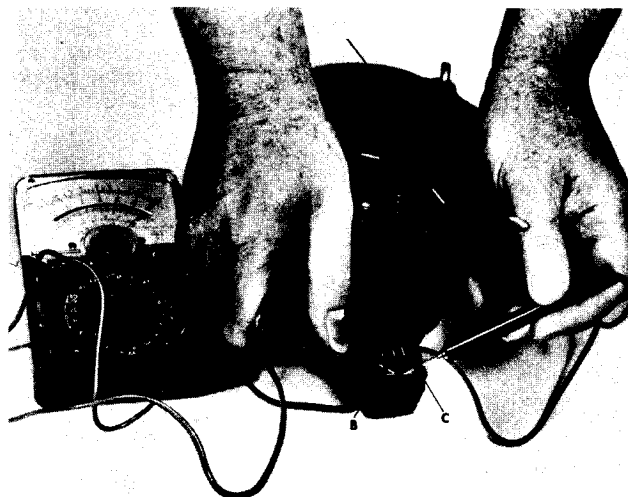

FIG. 3-RESISTANCE CHECK-COIL PRIMARY CIRCUIT
b. Hook up ohmmeter on low range and check continuity across terminals B and C (Fig. 3). Meter reading should read less than 1 ohm (ignition coil primary). If not, replace coil.